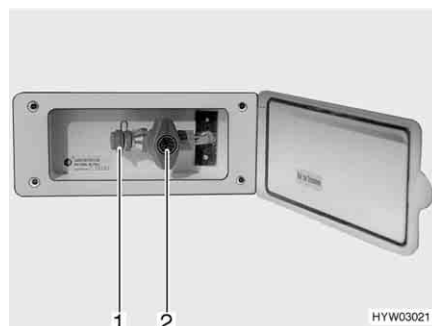

Fig. 120 External gas connection, gas isolator tap closed
The external gas connection (Fig. 120) is located at the rear or to the left or right of the vehicle depending on the model.
- Connect the external gas device to the connection point (Fig. 120,1).
- Open the gas isolator tap (Fig. 120,2).